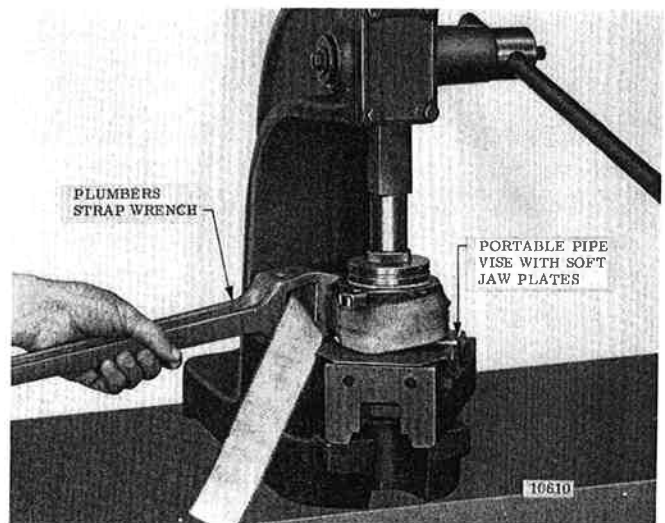

Figure 7-25. Winding Load Brake Gear Using a Strap Wrench to Set Up Load Brake Spring.
(6) The brake spring must be pre-loaded at assembly to a torque of from 6 to 10 lb. ft. when used with yellow (color code) spring and a torque of 10 to 14 lb. ft. when used with plain (no color code) spring. (See Section IX for proper spring). This is accomplished using a plumber's strap wrench to wind (rotate) load brake gear to set up spring (fig. 7-25) while pressing brake flange into place using an arbor press. Clamp pinion end of shaft into a portable vice to keep brake from rotating in press. Use brass or copper jaw plates on vise to protect pinion gear teeth. Wind gear counter-clockwise (viewing brake from flange end) with strap wrench and press down on flange until snap ring groove in shaft is exposed allowing snap ring to be installed. Use extreme care not to over wind spring as yield will result and final spring torque will be reduced. Do not wind gear beyond point necessary to install snap ring in groove.